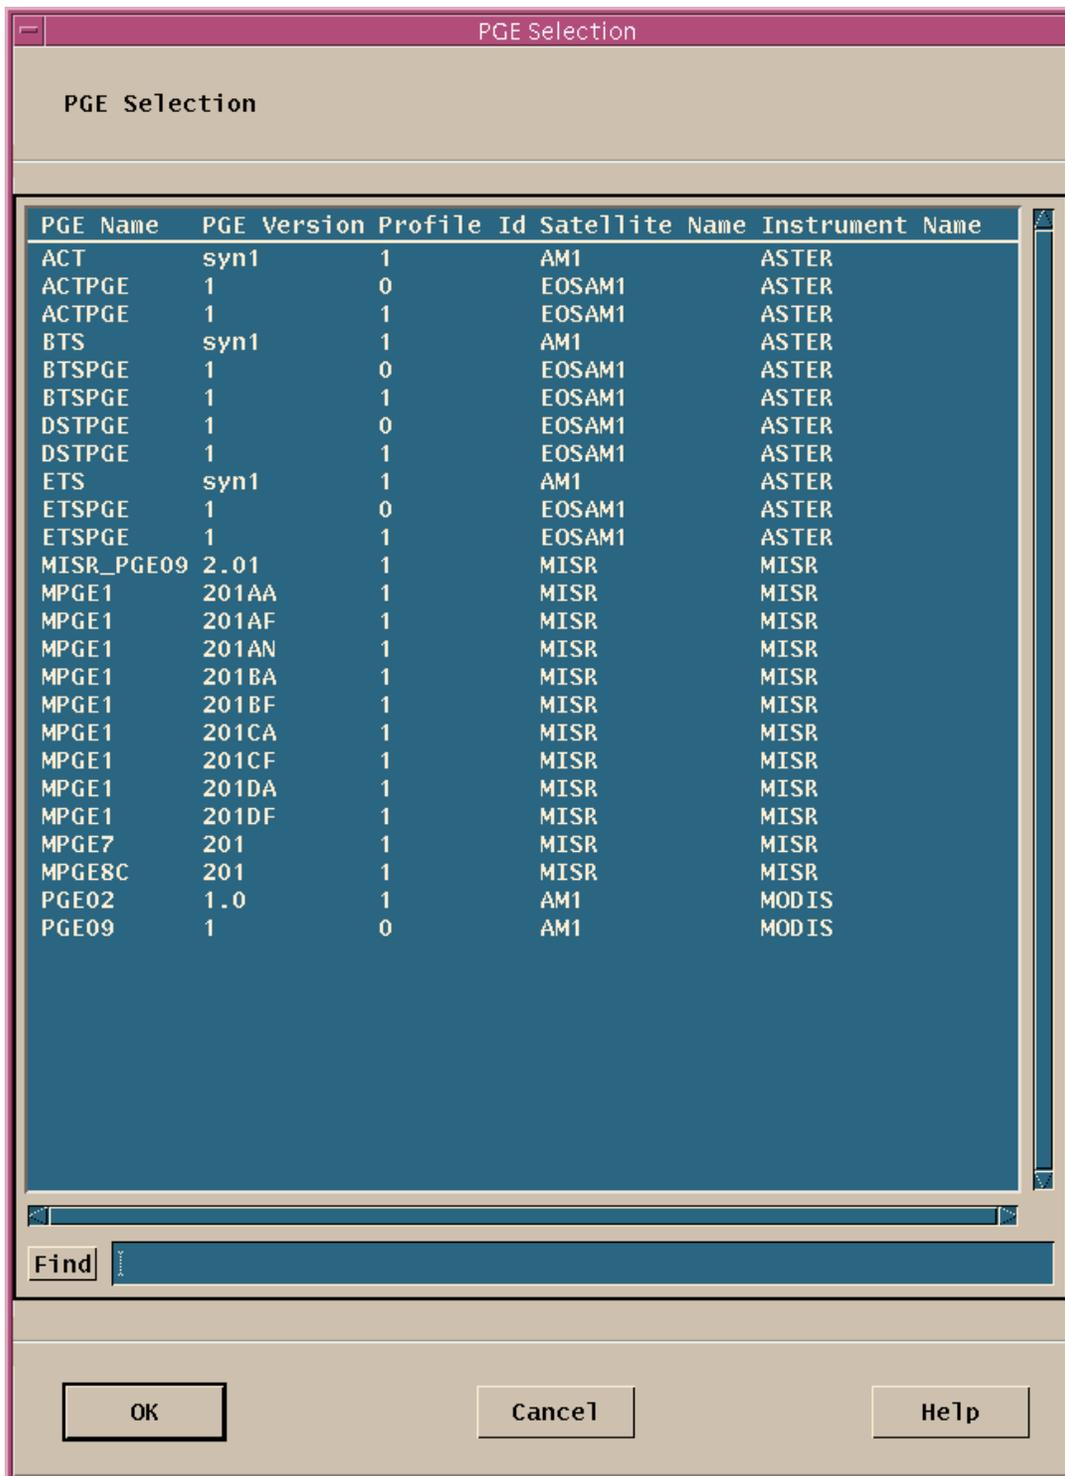

Figure 17. PGE Selection GUI
- The **PGE Selection** GUI (Figure 17) is displayed.